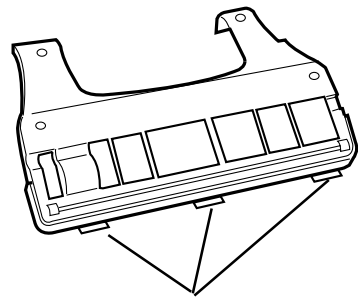

Fig.29
- 1 Insert the front three tabs of the bottom plate into the grooves at the front end of the nozzle head, then reset the bottom plate. (Fig. 29)